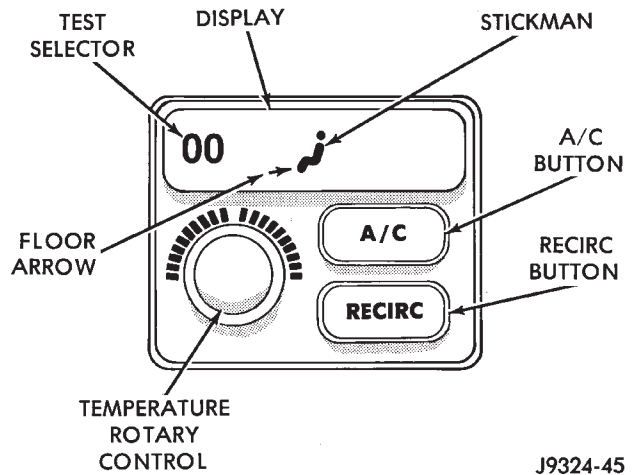

Fig. 6 Test Selector Values Below 0
(1) If the floor (bottom) arrow is showing, the test selector value will be a range of numbers below 0 (Fig. 6).